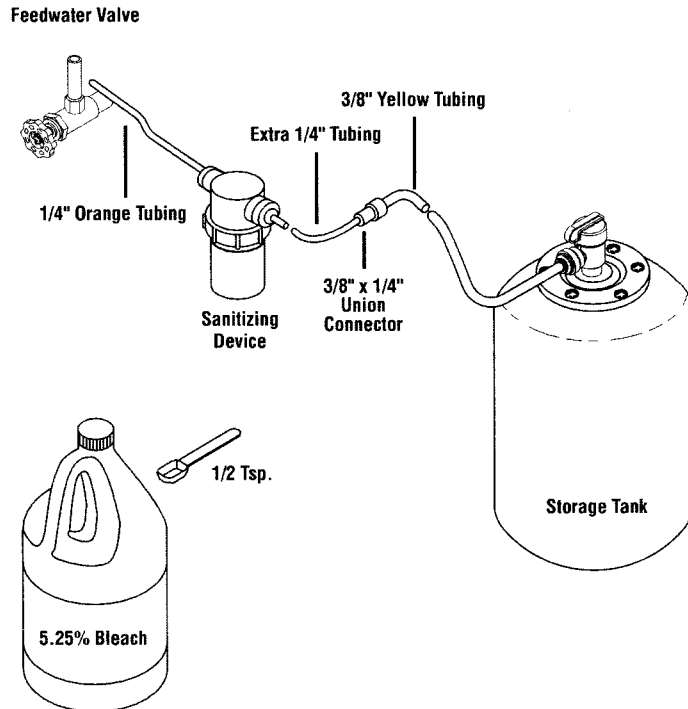

Figure 8
- 3) Make sure that the feedwater tapping valve is completely closed and disconnect the 1/4" orange feedwater tubing from the filtration assembly. Connect the end of the feedwater tubing to the sanitizing device. Connect an extra length of 1/4" tubing to the other end of the sanitizing device. Using the 3/8" x 1/4" union connector, connect the 3/8" yellow tubing from the tank valve fitting to the extra piece of 1/4" tubing. (See Fig. 8)
- 5) Open the feedwater valve to force water and sanitizer into the storage tank. Allow about three (3) minutes to fill a standard 2.5 gallon (9.5 liter) tank. It should feel heavy when it is full.
- 6) The sanitizing agent should remain in the storage tank a minimum of fifteen (15) minutes. Close the feedwater valve and the storage tank valve. Disconnect the sanitizing device from the storage tank and feedwater valve. Reinstall the storage tank and reconnect the 1/4" orange feedwater tubing and the 3/8" yellow tubing.
- 8) Shut off the faucet and allow the storage tank to fill for at least six (6) hours. Drain the storage tank again and discard the water. The appliance should be ready to use as soon as the tank refills. If any objectionable taste is noticed, then drain the storage tank again and allow it to refill.